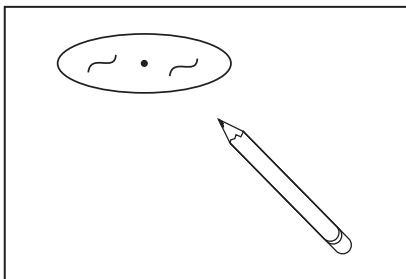

Figure 2
Step 1. Locate center of proposed opening on ceiling and use template to mark and accurately cut a 4-3/8" opening (Fig. 2).